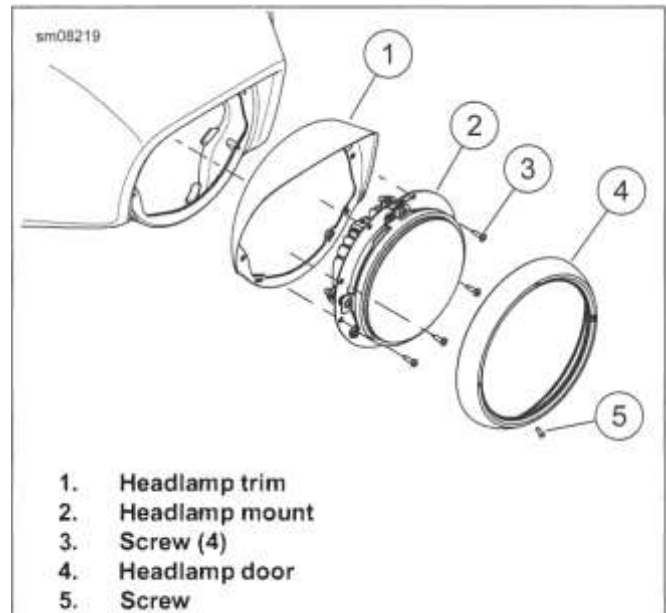

Figure 3-98. Headlamp Mount
1. See Figure 3-98. Remove headlamp door (4). If needed, remove headlamp from mount (2). See HEADLAMP (Page 8-41).
2. Remove screws (3).
3. Hold headlamp and mount (2) away from fairing and disconnect wiring harness.
4. Remove headlamp trim (1).
2. See Figure 3-98. Install headlamp trim and mount with four screws (3). Tighten.